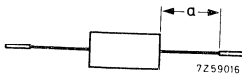

Fig. 2 Mounted to solder tags.
1. Thermal resistance from junction to ambient when mounted to solder tags; Fig. 2